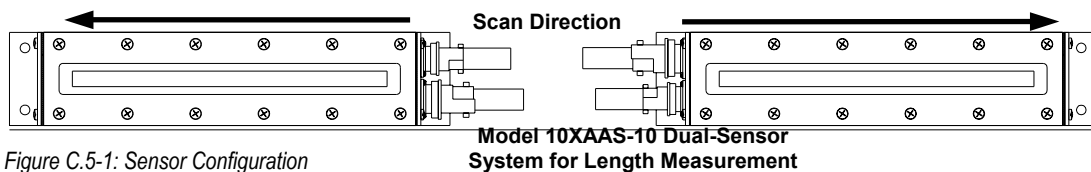

Figure C.5-1: Sensor Configuration for Length Measurement
In the majority of cases, 10XAS-Series emitters scan from the connector end to the opposite end of the emitter. On most width measurement or guiding applications, the connectors face towards the outside of the line. But with length measurement applications and especially flying length measurement, the scanning of the emitters must be done from the middle of the material to the ends of the emitters {Figure C.5-1}. The connectors must face *inwards* towards each other, allowing the sensor scanning to be performed from the center of the sensor system outwards.
*When installing for thick materials on a length measurement application, the sensors must be positioned with the connector ends facing each other under the middle of the material and the receivers end-aligned over the opposite ends of the emitters from the connectors [See Section C.5.a & Figure C.5-1].*